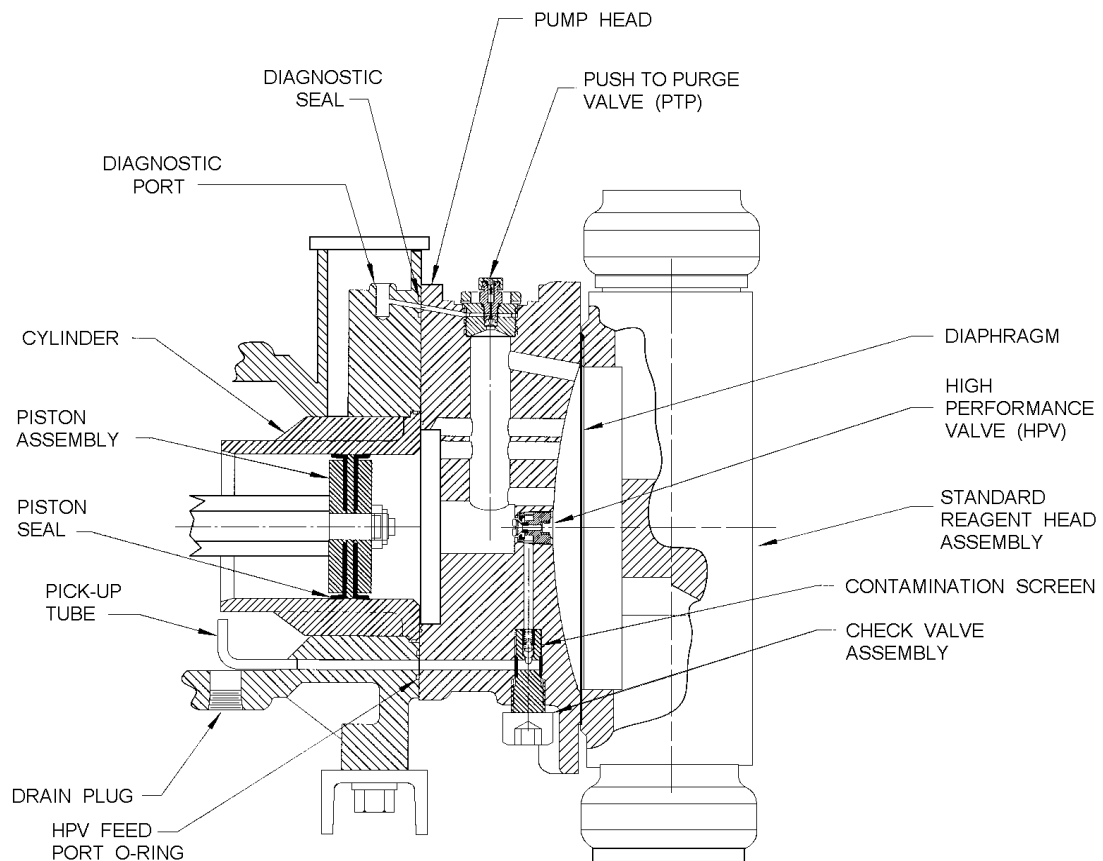

Figure 13
7. Fully depress and hold the PTP valve for several seconds periodically as the stroke length is adjusted. Within several minutes oil should begin to flow out of the small diagnostic port (refer to **Figure 13**). Continue to press the valve periodically until the oil is clear of bubbles. The pump is now primed. If oil fails to flow out of the diagnostic port after two minutes, proceed to Step 8.
16. Fully depress and hold the PTP valve for several seconds periodically as the stroke length is adjusted. Within several minutes oil should begin to flow out of the small diagnostic port (refer to **Figure 13**). Continue to press the valve periodically until the oil is clear of bubbles